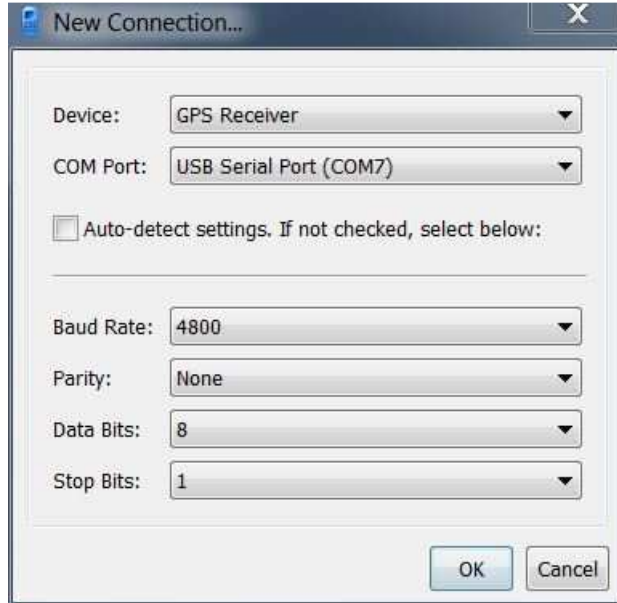

Fig. 26 GPS settings
- Check that the settings are correct (cf. Figure 26).